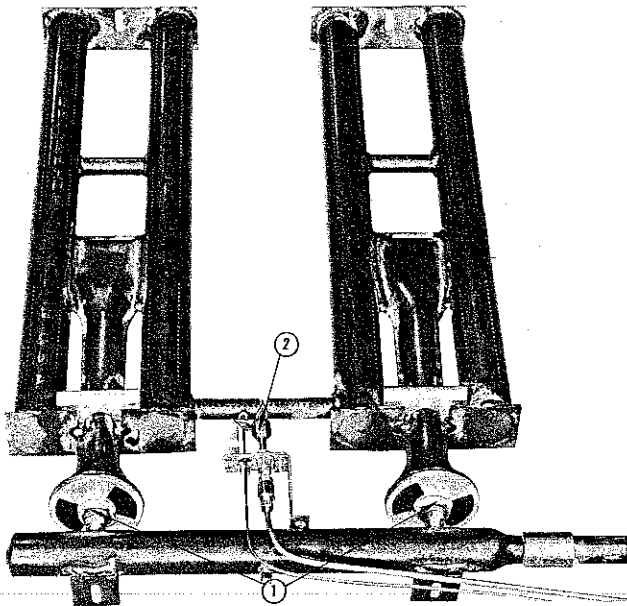
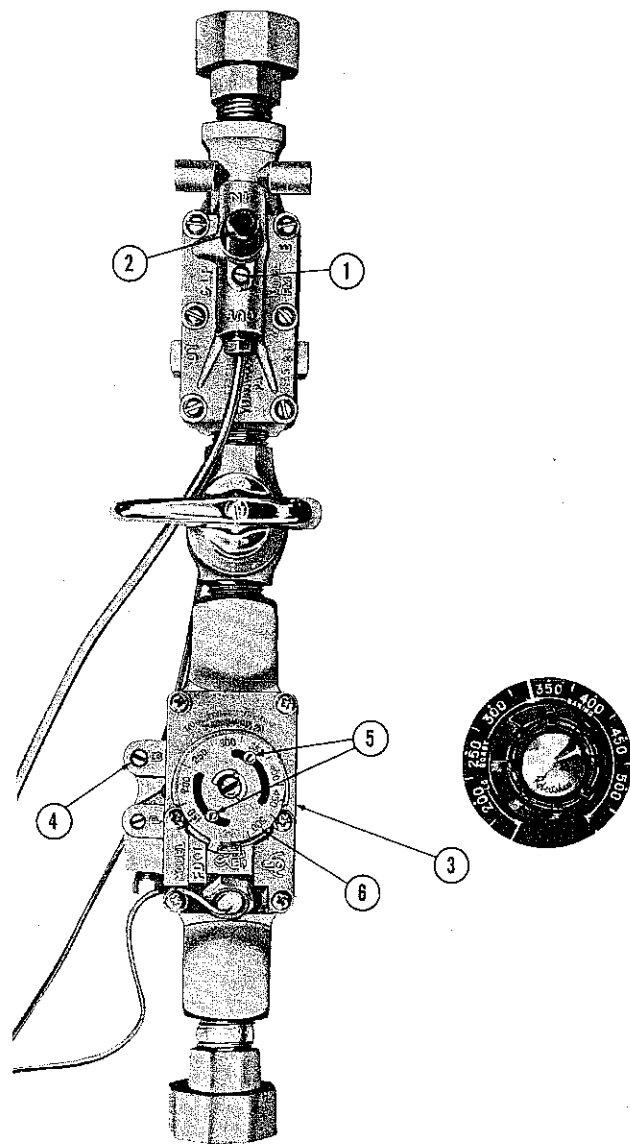

FIG. 12
FIG. 13
To remove orifices from manifold (Figure 12, No. 1):
2. Turn the by-pass adjusting screw (Figure 13, No. 4) counterclockwise three full turns.
To insure proper operation of this oven, make sure the pilot burner is adjusted as in (Figure 12, No. 2). The flame must engulf the safety valve tip. This adjustment may be made by turning the safety pilot adjusting screw (Figure 13, No. 1) counterclockwise until size of flame is as desired. To make this adjustment insert screwdriver thru the opening in the control compartment cover just below the red button of the safety valve.
- With a screwdriver loosen the two calibration screws (Figure 13, No. 5) until calibration plate (Figure 13, No. 6) moves independently of the control.
To light pilot: make sure main gas control valve is at OFF mark. Open burner compartment door, press in and hold plunger of pilot control (red button), (Figure 13, No. 2). Apply lighted match or taper to the pilot burner. After burner ignites, continue to press plunger in for about 60 seconds before releasing it. If pilot burner continues to burn, set thermostat dial at 500° F (260° C) then turn main gas valve control on and reset thermostat dial to the desired temperature. It is not necessary to relight the automatic pilot daily. At the end of each day's operation, simply turn main gas control valve off.